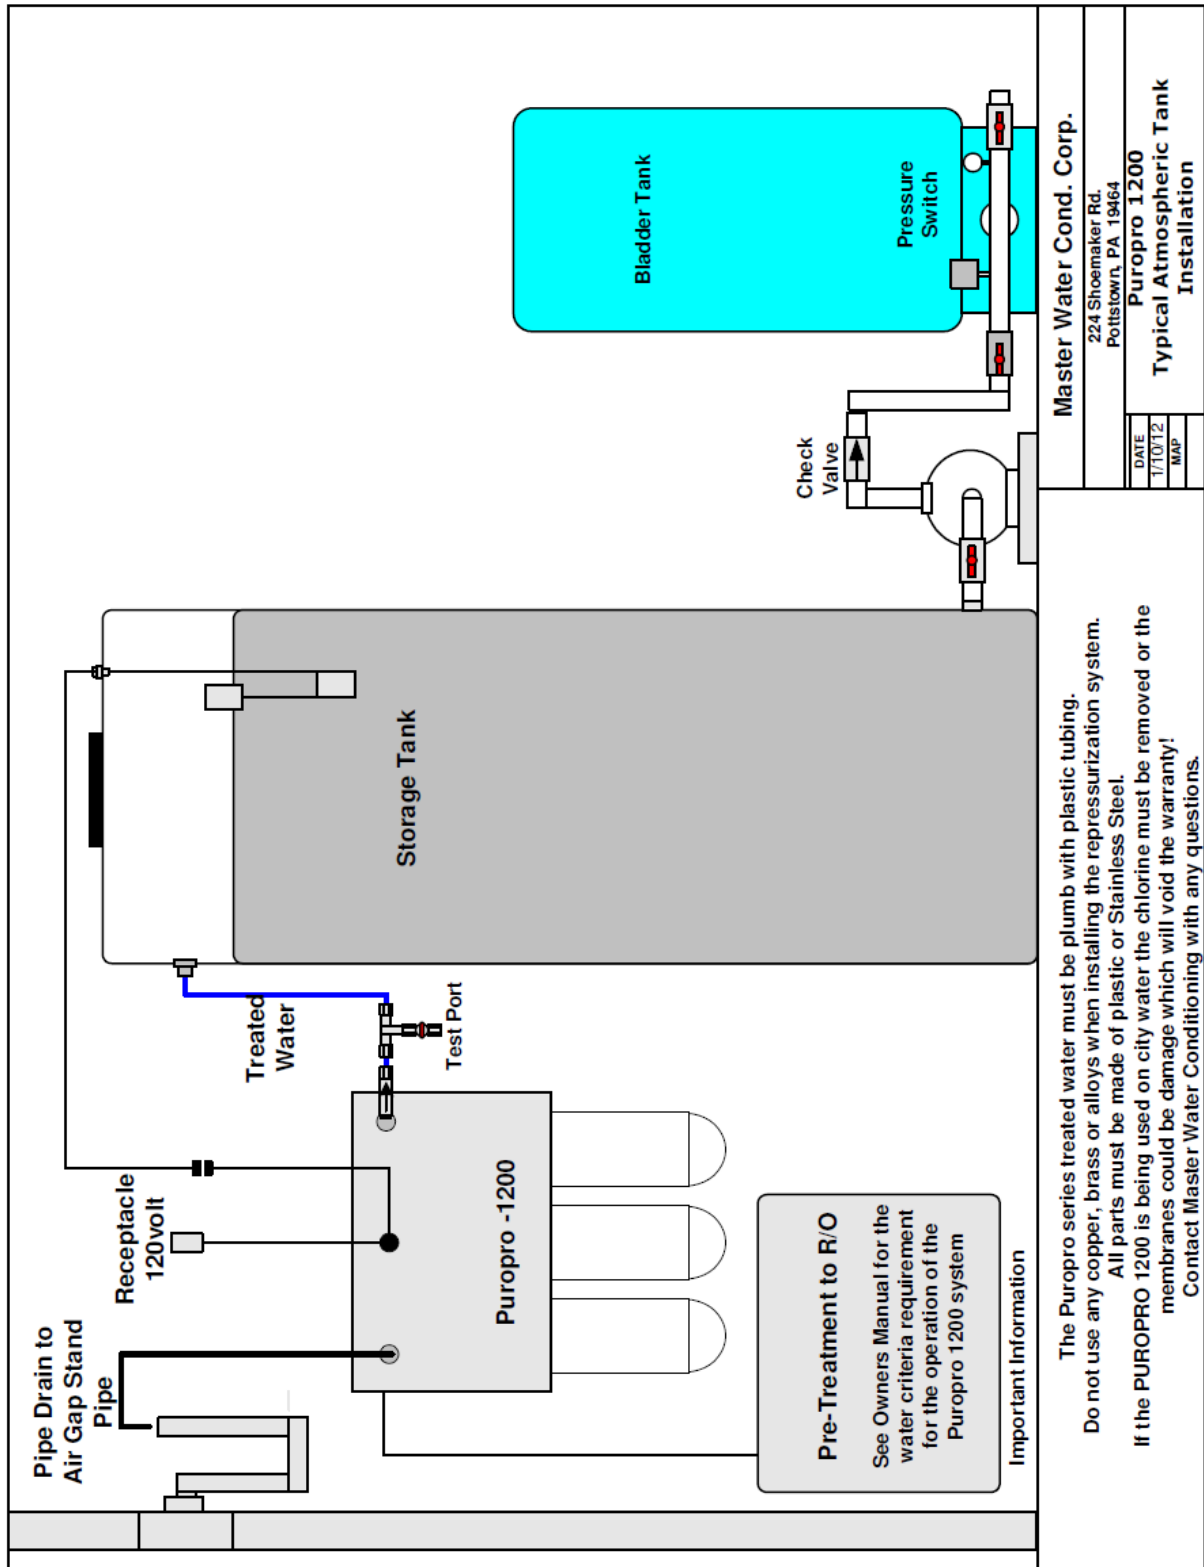

Figure 1. Typical PURO PRO Installation
The PURO PRO is a modular reverse osmosis filtration system for the reduction of Total Dissolved Solids (TDS) from water. The system consists in a 5 micron inlet depth filter, four (4) high-performance reverse osmosis membranes and a carbon post filter. The system is designed to operate with a pressurized (40 to 90 psi) feed and a vented storage tank for collection of the product water. An inlet normally-closed solenoid allows pressurized water to enter the system whenever it is activated by the level float which is installed in a water collection tank. See Figure 1. The modular assembly is constructed of non-corrosive Noryl®, polypropylene and FRP materials. The reverse osmosis system is rated at a maximum working water pressure of 90 psi. The system has a fixed inlet flow control, and an adjustable drain restrictor control for achieving maximum efficiency.
1. Attach the float switch to the vented storage tank so that the float raises to the horizontal position when the storage tank is full of water. The float switch will provide an open circuit (i.e., no power) to the solenoid when in a vertical (unfloating) position; the float switch will provide a closed circuit (i.e., powered) to the solenoid when in the horizontal (floating) position. See Figure 1.